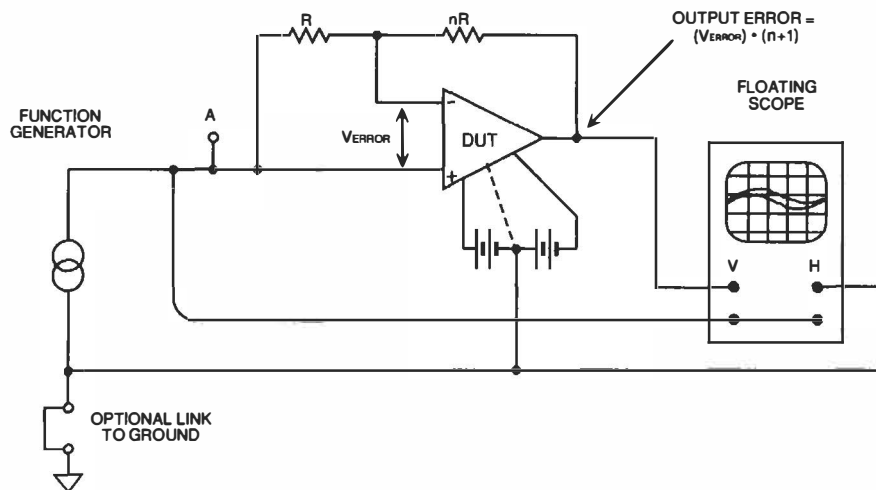
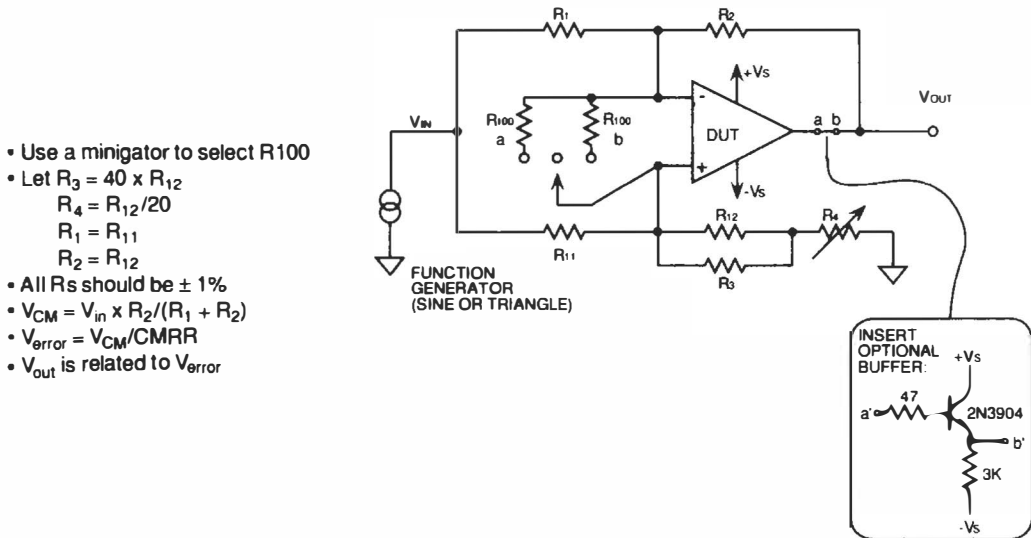

Figure 8.3. Is this a CMRR test? No, because $V_{\text{error}} = V_{\text{cm}}/\text{CMRR} + V_{\text{out}}/A_V$.
Figure 8.7. Here's how to evaluate CMRR with confidence and precision, both AC and DC.
The first thing I always tell people is how *not* to measure CMRR. In Figure 8.3, if you drive a sine wave or triangle wave into point A, it seems like the output error, as seen by a floating scope, will be $(N+1)$ times [V_{CM} divided by the CMRR]. But that's not quite true: you will see $(N+1)$ times [the CM Error *plus* the Gain Error]. So, at moderate frequencies where the gain is rolling off and the CMRR is still high, you will see mostly the gain error, and your curve of CMRR vs. frequency will look just as bad as the Bode plot. That is because if you used the circuit of Figure 8.3, that's just what you will be seeing! There are still a few op-amp data sheets where the CMRR curve is stated to be the same as the Bode plot. The National LF400 and LF401 are two examples; next year we will correct those curves to show that the CMRR is actually much higher than the gain at 100 or 1000 Hz. National is *not*, by the way, the only company to have this kind of absurd error in some of their data sheets. . . .
Specifically, I ran an LF356 in the circuit of Fig. 8.3, and I got an error of 4 mV p-p at 1 kHz—a big fat quadrature error, 90 degrees out of phase with the output—see the upper trace in Figure 8.6.
Figure 8.6. Trace (A) shows the “CMRR” error taken using the circuit of Figure 8.3. But it’s not the CMRR error, it’s really the gain error you are looking at, 4 mV p-p at 1 kHz. Trace (B) shows the actual common-mode error—about 1/20 the size of the gain error—measured using the circuit of Figure 8.7.
Figure 8.7 is a darned fine circuit, even if I did invent it myself about 22 years ago. It has limitations, but it's the best circuit I've seen. Let's choose $R_1 = R_{11} = 1\text{ k}$, $R_2 = R_{12} = 10\text{ k}$, and $R_3 = 200\text{ k}$ and $R_4 = \text{a } 500\ \Omega \text{ pot}$, single-turn carbon or similar. In this case, the noise gain is defined as $1 + [R_f/R_{in}]$, or about 11. See pages 100–101 for discussion of noise gain. Let's put a $\pm 1\text{-V}$ sine wave into the signal input so the CM voltage is about $\pm 10\text{ V}$. The output error signal will be about 11 times the error voltage plus some function of the mismatch of all those resistors. Okay, first connect the output to a scope in cross-plot (X-Y) mode and trim that pot until the output error is very small—until the slope is nominally flat. We don't know if the CMRR error is balanced out by the resistor error, or *what*; but, as it turns out, we don't care. Just observe that the output error, as viewed on a cross-plot scope, is quite small. Now connect in R100a, a nice low value such as $200\ \Omega$. If you sit down and compute it, the noise gain rises from 11 to 111. Namely, the noise gain *was* $(1 + R_2/R_1)$, and it then increases to $(1 + R_2/R_1)$ *plus* $(R_2 + R_{12})/R_{100}$. In this example, that is an increase of 100. So, you are now looking at a *change* of V_{out} equal to 100 times the input error voltage, (and that is V_{CM} divided by CMRR).